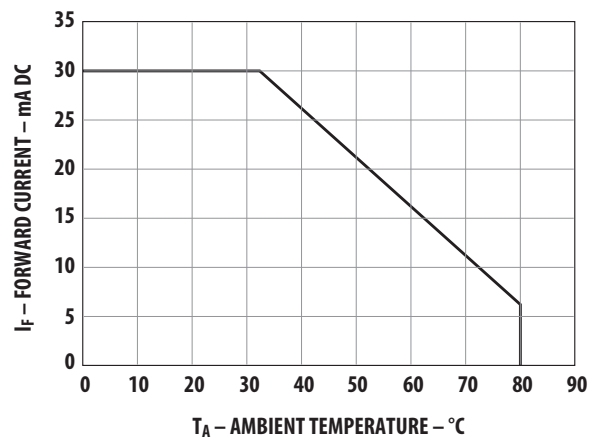

Figure 6. Maximum DC forward current vs. ambient temperature. Derating based on TJ max. = 115°C
- Derate linearly from 50°C as shown in Figure 6.